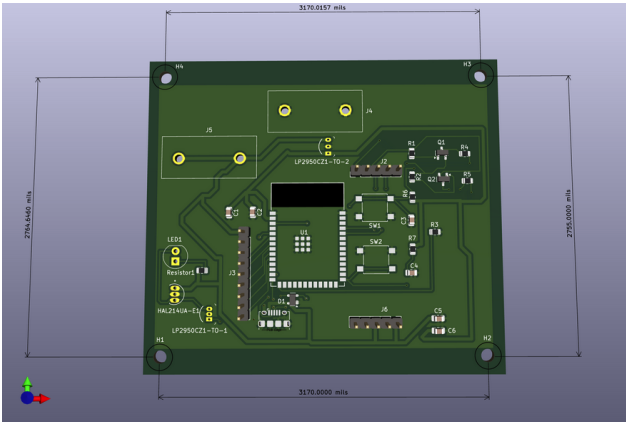

Figure 5: Enter Caption
- **Figure 5:** Final PCB layout